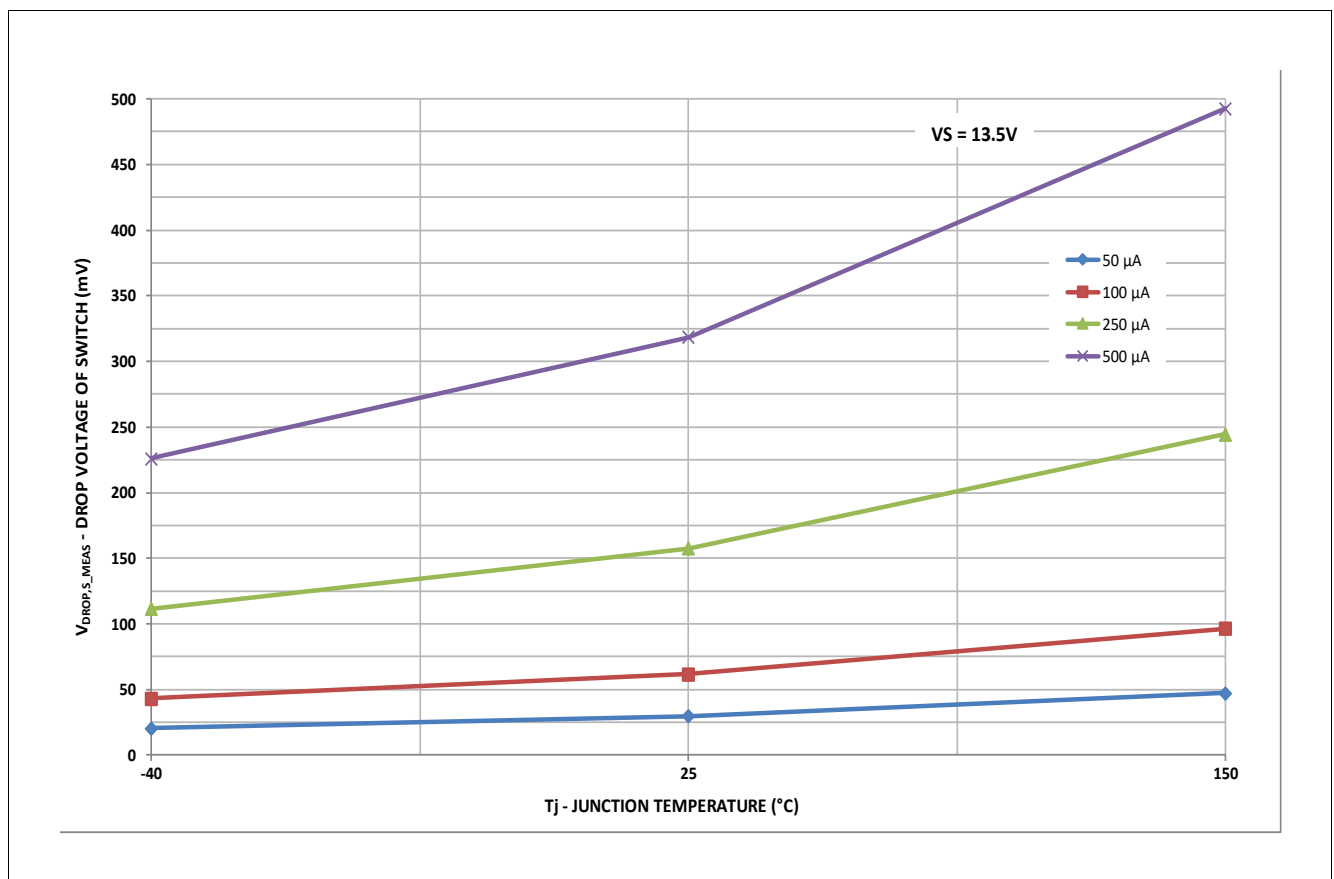

Figure 13 Typical Drop Voltage Characteristics of switch S_MEAS (between WK/VSENSE & FO/GPIO)
*Note: There is a diode in series to the switch S_MEAS (not shown in the **Figure 46**), which influences the temperature behavior of the switch. See also **Figure 13**.*
| Drop Voltage across S_MEAS switch between WK/VSENSE and FO/GPIO when enabled for voltage measurement; | V_{Drop,S_MEAS} | 40 | 160 | 250 | mV | ¹⁾ $4\text{V} < V_{WK_IN} < V_S + 0.3\text{V}$; $I_{WK1} = 200\mu\text{A}$; $T_j = 25^\circ\text{C}$ Refer to Figure 13 | P_5.4.2 |